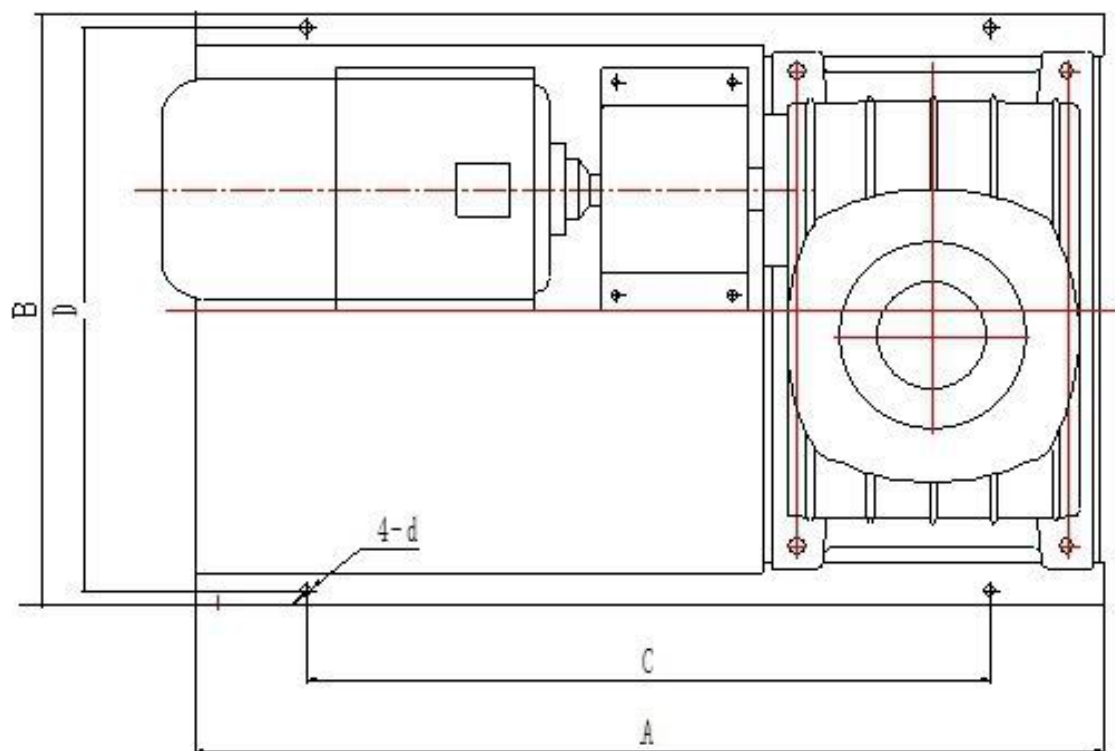

图1
(1) Place the agitator base (including motor and reducer) on the installation position of the agitator on the tank surface, as shown in Figure 1. Weld four M20 mounting blocks to the tank surface, and connect them firmly with M20*40 screws; Adjust the blender level as much as possible.